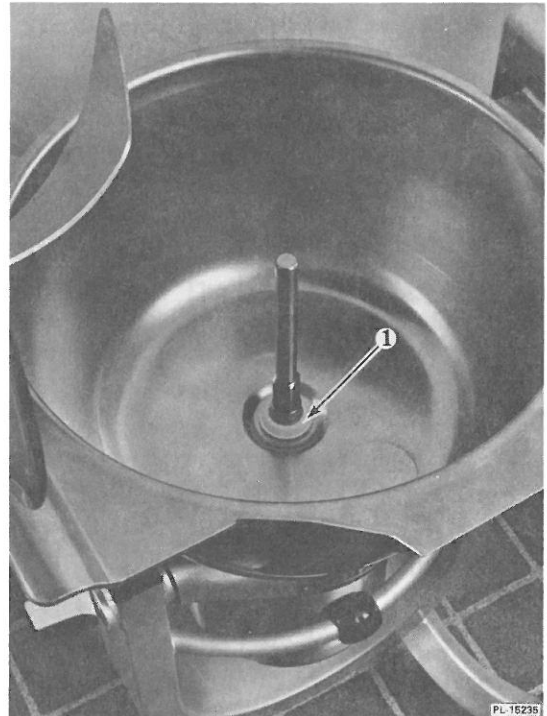

Fig. 6
2. Bowl Seal: Insert the black seal ring (1, Fig. 5) in the white seal retainer (2, Fig. 5) with the thin part extending from the end opposite the taper. With thin part down, install seal with retainer over the motor shaft. Seat seal (1, Fig. 6) securely against bottom of bowl.